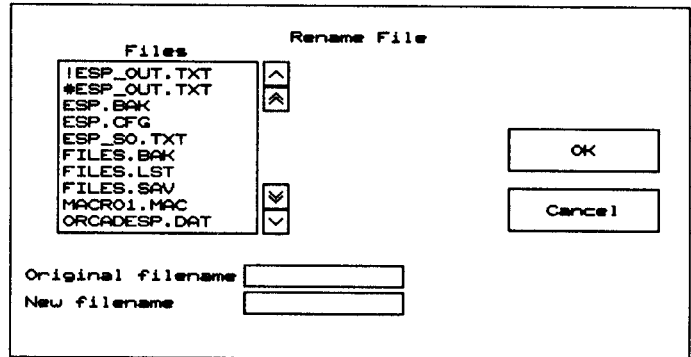

Figure 2-20. *Rename File* window.
1. Select **Rename File**. The window shown in figure 2-20 displays.